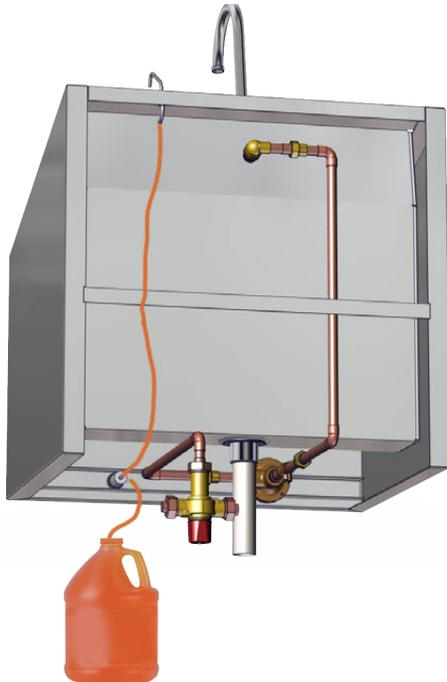
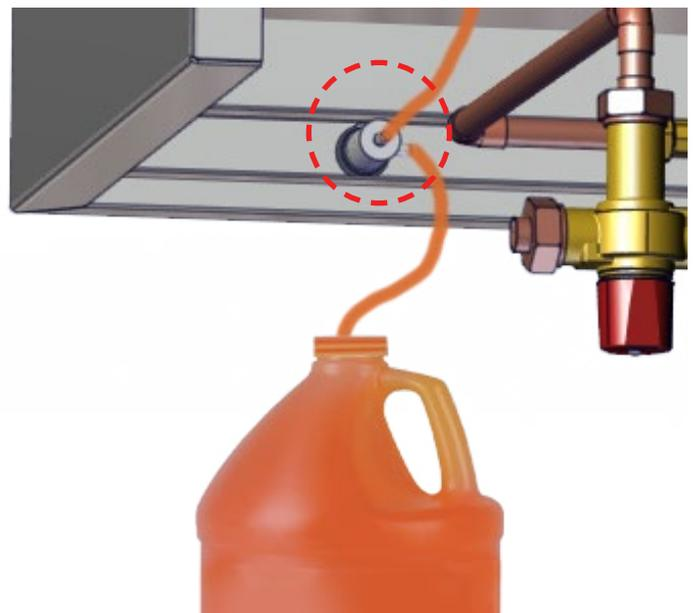

Fig. 10: Install soap dispenser tubing
Fig. 11: Close-up of soap pump with tubing attached
4. Attach the soap tubing to the spout and soap pump (circled in red) as shown in Fig. 10 and Fig. 11.